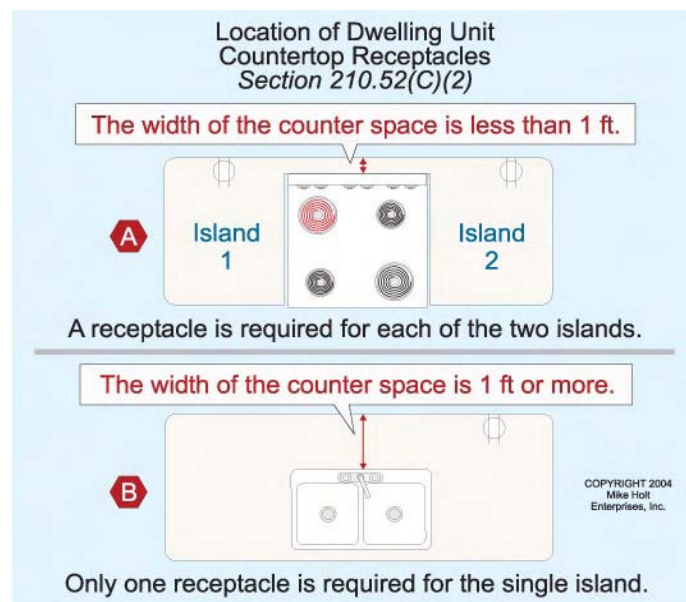

Figure 210-55
(2) Island Countertop Space. One receptacle outlet must be installed at each island countertop space with a long dimension of 2 ft or greater, and a short dimension of 1 ft or greater. When breaks occur in countertop spaces for appliances, sinks, etc., and the width of the counter space behind the appliance or sink is less than 1 ft, each countertop space is considered as a separate island for determining receptacle placement [210.52(C)(4)]. **Figure 210-55**